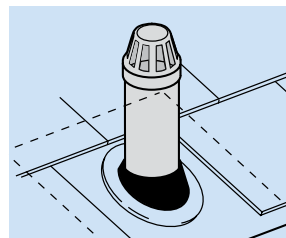

Fig. 57
- Dress the base plate to fit the lower tiles. Lay the side and upper tiles over the base plate (Fig. 57).